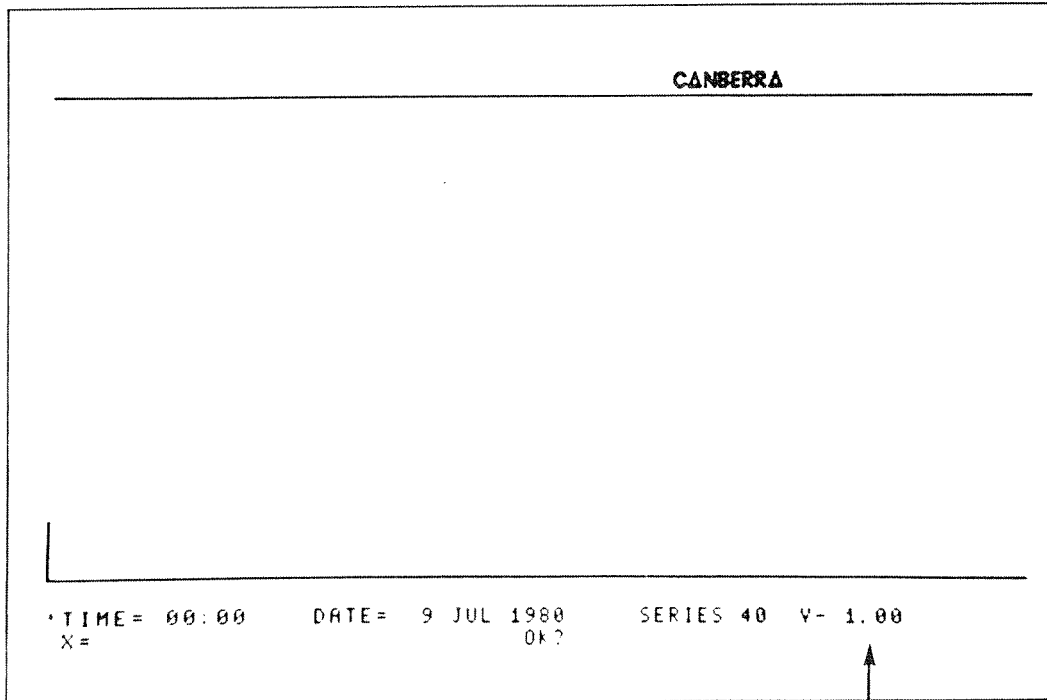

Figure B-6
7. On power up, check Firmware version number displayed (see Figure B-6) to verify that the correct Firmware set has been installed.
The Model 4223 Interface is to be installed in an Analyzer that has Firmware version 2.2, or later, installed. The Firmware version can be determined at power on (see Figure B-6). If the Analyzer's Firmware version is earlier than 2.2, contact your local Canberra Representative or Canberra's Customer Service Department.